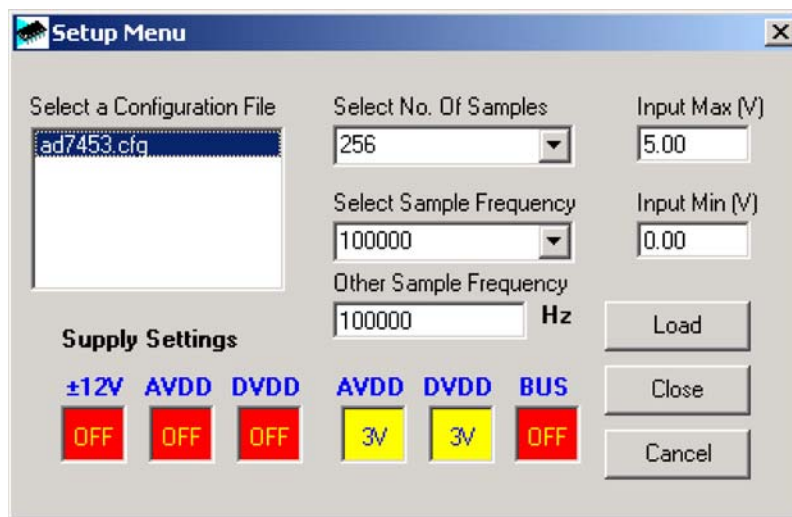

Figure 3. The Setup Window
For the AD7453 evaluation board and EVAL-CONTROL-BRD2 to communicate with the software, the required configuration files must be loaded from the **Setup Menu** (see Figure 3).
2. Open the **File** menu and select **Setup**. This displays the setup form (as shown in Figure 3).
Setup Menu. Selecting this option displays the Setup Window. See Figure 3 and the Configuring the Evaluation Board section for a detailed description of this menu.